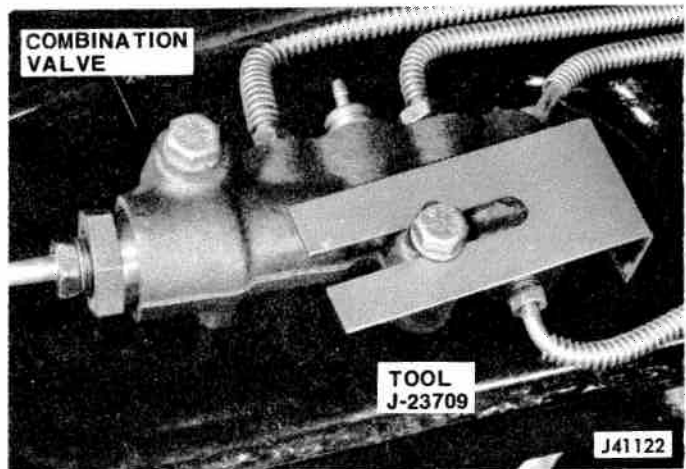

Fig. 9-20 Metering Section Hold-Open Tool Installed
- (1) Clean any accumulated dirt from master cylinder cover.
- (2) Remove master cylinder cover.
(3) Fill master cylinder if required and reinstall cover.
(4) Hold combination metering valve open as follows: on Cherokee, Wagoneer, and Truck models, loosen the front mounting bolt on the combination valve and insert the slotted end of tool J-23709 under the mounting bolt. Push in on the metering valve pin to hold it open and retighten the mounting bolt to hold tool J-23709 in (fig. 9-20). On CJ models, remove the brake warning switch wire, switch terminal, plunger and spring from the combination valve.
(5) Hold combination metering valve open. On Cherokee, Wagoneer, and Truck models, install tool J-23709 as described in step (4) of Manual Bleeding Procedure (fig. 9-20). On CJ models, remove the brake warning switch wire, switch terminal, plunger, and spring from the combination valve.
(6) Bleed brake system in following sequence.